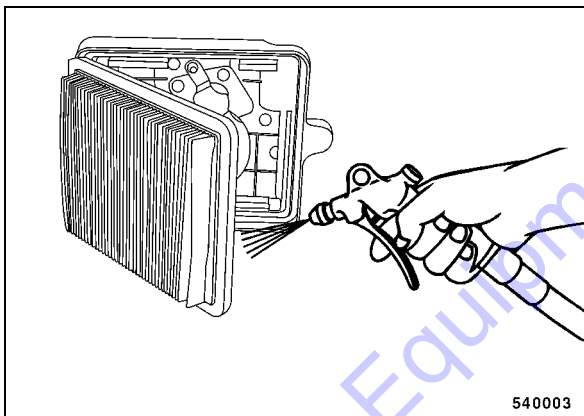

Fig. 60
- If soiled with dry fine dust blow the dry air filter out from the clean air side (Fig. 60).